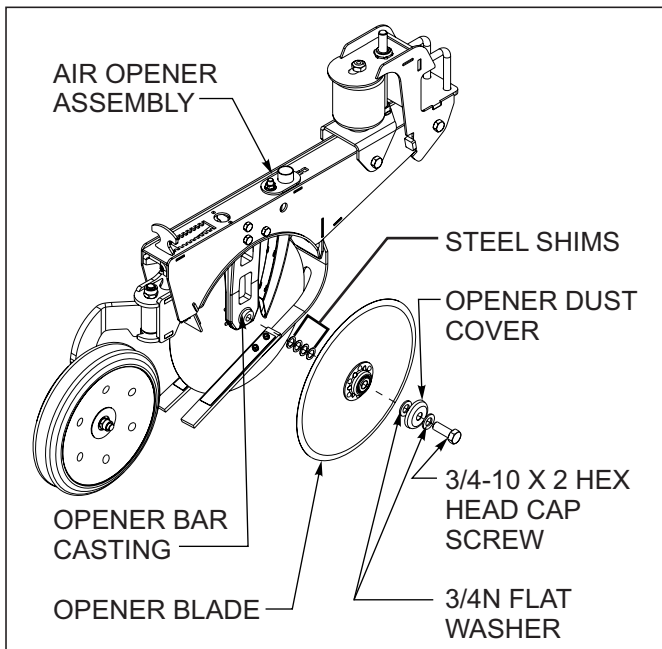

Figure 4-26: Opener Blade Adjustment
4. The pinch point is adjusted by adding/removing shims from between the opener blade and opener casting (**See Figure 4-26.**) When removing shim(s) from between the blade and the casting, move them to the outside of the blade and place under the dust cap. This will keep track of the shims and not change the length of bolt required. Adjust the shims as equally as possible so there are the same number of shims under the right and left blades.